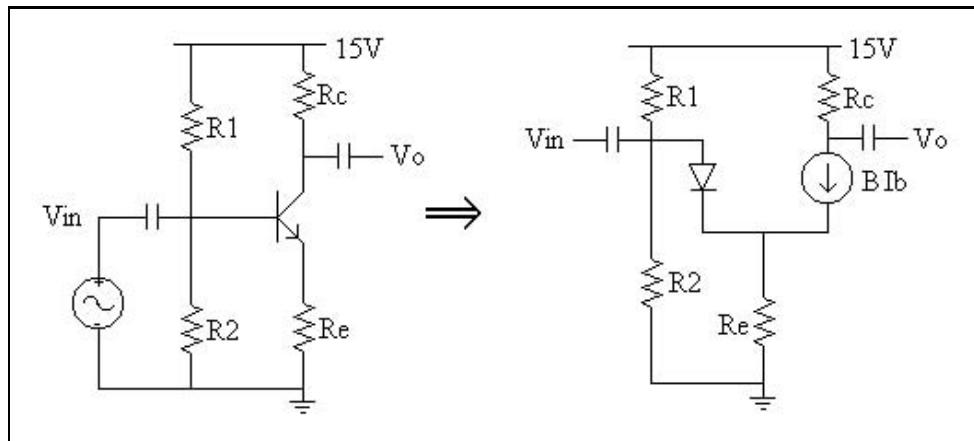

Figure 2.4: Common Emitter Amplifier
The circuit in Fig. 2.4 is a Common Emitter (CE) Amplifier. As discussed above, with the CE amplifier, we first use R_1 , R_2 , C_1 , and C_2 to set up a DC operating point with $v_{in} = 0$. The purpose of C_1 and C_2 is to isolate the DC operating point currents and voltages from the rest of the world, i.e, the signal source and the load. After establishing a DC operating point, an input signal is applied to the base coupling capacitor C_1 . For large enough frequencies, the signal will pass through the coupling capacitor and enter the base. This will result in variations in the bias conditions in accordance with the input signal. The variation of bias conditions at the collector is then passed through the capacitor C_2 , which is taken to be v_{out} . The small signal voltage gain is then considered to be $\frac{v_{out}}{v_{in}}$.
Having defined our region of frequency operation, let's get back to amplifiers. As mentioned above the CE configuration is useful for amplifying small signal voltages. To understand this refer to Fig. 2.4 and the following discussion. Recall that a small change in base current leads to large change in collector current. Now, this small change in base current can be achieved by applying a small AC voltage to the base, which in turn will give rise to a large change in collector current so that $\Delta I_c = \beta \Delta I_b$. It follows that when a relatively large resistor R_C is placed between the power supply V_{CC} and the collector, the voltage variation across R_C and thus the voltage variation at the collector, due to the large change in collector current, will also be large. Thus, a small change in base voltage can lead to a large change in collector voltage. If we consider the input signal to be the change in base voltage, and the output signal to be the change in collector voltage, then the voltage amplification or gain will be $A_v = \frac{v_{out}}{v_{in}} = \frac{\Delta V_c}{\Delta V_b}$. By choosing the appropriate resistor values, we can design a simple CE amplifier with the voltage gain we want. To understand this, consider the following example. Recall, the voltage gain is $A_v = \frac{v_{out}}{v_{in}} = \frac{\Delta V_c}{\Delta V_b}$. The general procedure will be to find V_c and V_b from simple applications of Kirchoff's laws, and then find the small or incremental changes in these voltages due to an applied signal at the base.